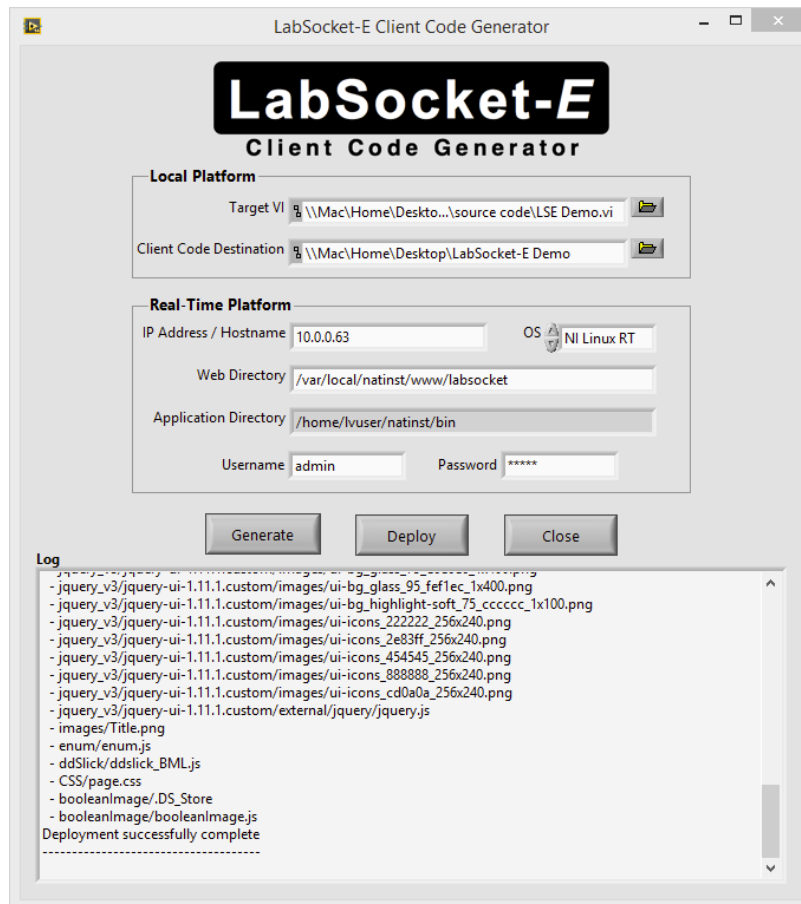

Figure 6.6. Client Code Generator window showing typical Log window display on initial deployment to an RT platform
1. Press the “Deploy” button on the Client Code Generator to transfer the browser client code to the RT platform or RPi. The list of files transferred and other information about the deployment is shown in the Log window (Figures 6.6 and 6.7). A description of the files transferred to the RT platform is included in the Note below.